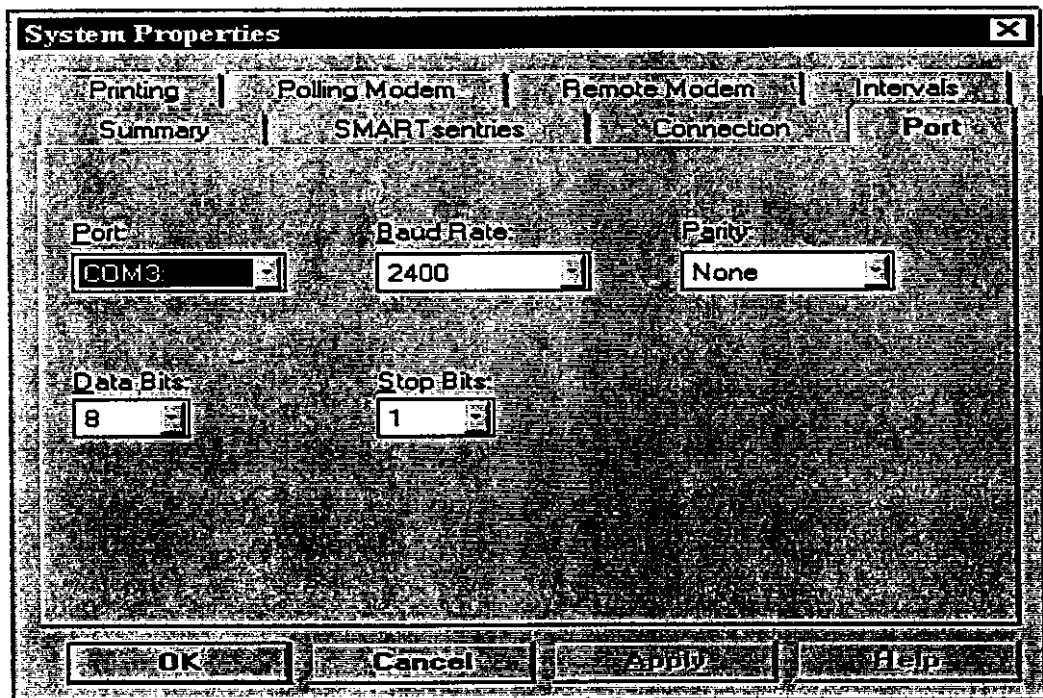

Figure 8 System Properties (Port Tab Group)
2.2.3.12.2.2 In the **Port** tab group, select the COM port you are using to connect from you PC to the sentry, and select 2400 baud, No parity, 8 data bits, and 1 stop bit (see Figure 8).